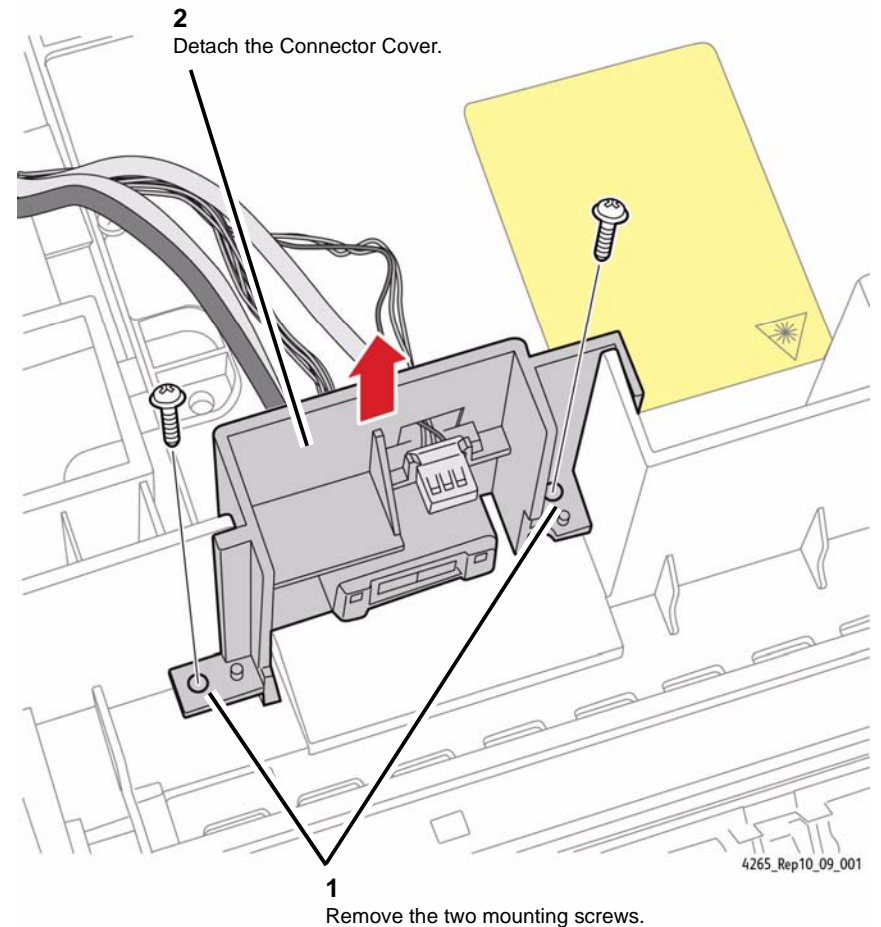

Figure 1 Detaching the Connector Cover from the Frame
4. Detach the Fuser Connector Cover from the frame (Figure 1).